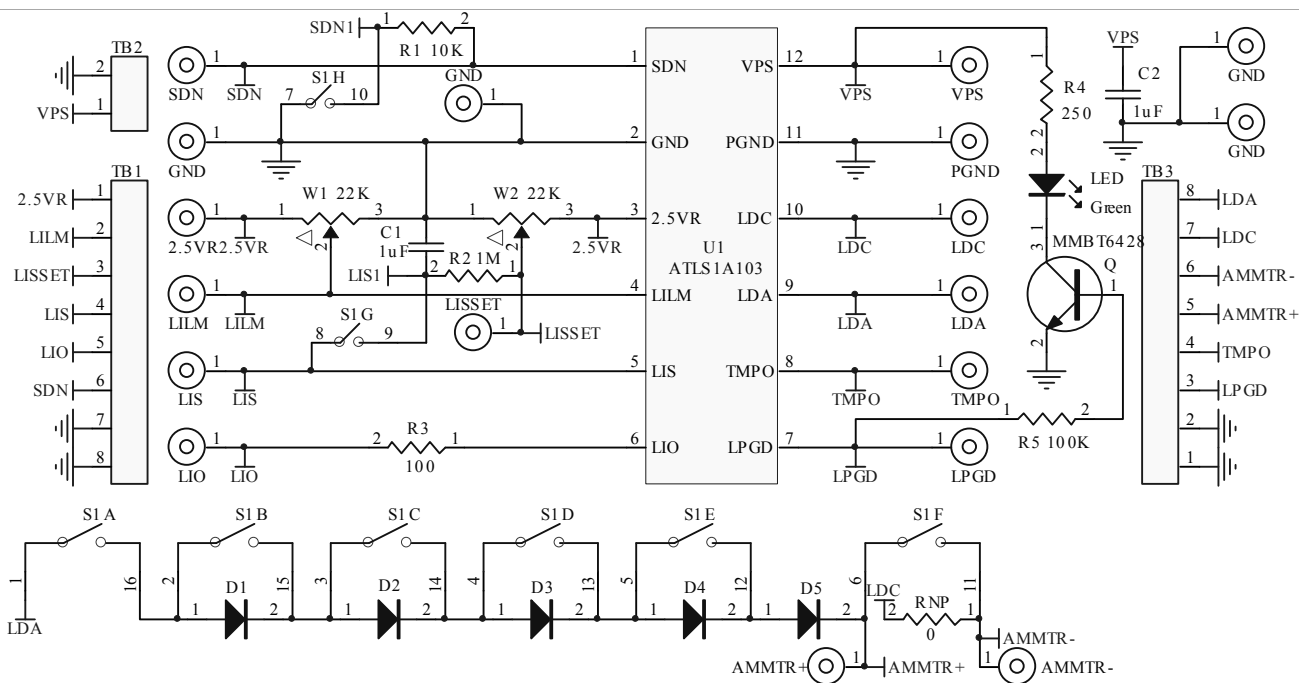

Figure 7. Schematic of ATLS1A103DEV1.0
The schematic is shown in Figure 7 below.
- Turn the switch S1F to its lower off position, thus the output current goes through the ammeter and can be measured by reading Ammeter's value.; when the switch S1F is placed in the upper on position, the ampere meter is shorted, thus, it does not measure the output current, see the schematic shown in Figure 7.
- Test the controller with the “dummy laser”. The 5 diodes on the board, D1 to D5, can form a “dummy laser” to act as the laser diode in the place of a real laser so that in case there is a problem in the circuit, the expensive laser would not be damaged, see schematic in Figure 7. Turn the switch S1A to the on position (upper), to connect the “dummy laser” to the controller. Turning switches S1B, S1C, S1D and S1E, up and down will increase (turning down the switches) and decrease (turning up the switches) the forward voltage of the “dummy laser” which can be measured by a volt meter between the LDA and the ground. Each diode can increase or decrease the output forward voltage by about 0.7V when the output current is 1A.